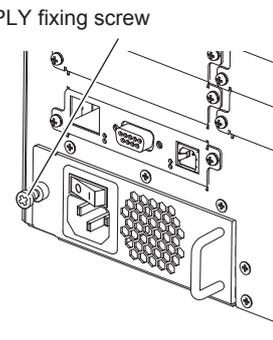

Fig. 3
- 3) **Use a Phillips-head screwdriver to securely tighten the POWER SUPPLY fixing screw (x 1). (Fig. 3)**